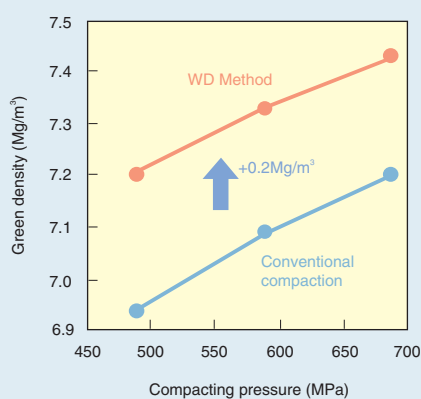

Fig. 1 Relationship between compacting pressure and green density
- 1 Higher densities (+0.2Mg/m³) in comparison with the conventional compaction method are achieved through the reduction of the internal lubricant content (Fig. 1).